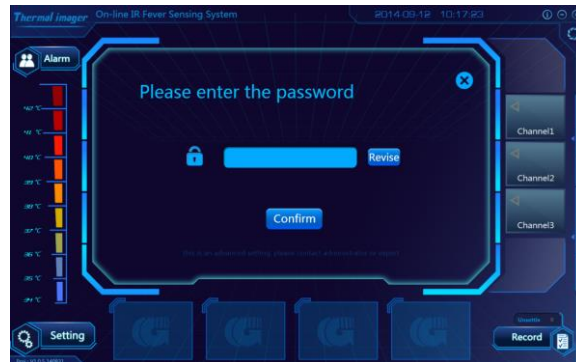

Fig.4.2.1 Client-side login interface
Click on the main interface  button, and enter into Settings User Login interface shown in Fig. 4.2.1:
(1) Click the "Setting"  —> "Alarm setting"  —> "Setting shield area"  in Fig. 4.2.1
in Fig. 4.2.1 main interface, and enter into the setting interface of the blackbody area, shown in
1) Click the "Settings" button  in Fig. 4.2.1 main interface —> "Alarm settings"  —>
Click the "Settings" button  in Fig. 4.2.1 main interface, —> "Infrared video" , and enter
in Fig.4.2.1 main interface, and enter into historical data view interface, view all alarm records shown in Fig. 4.3.1.